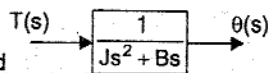

Fig 3.
In equation (6), $T(s)$ is input and $\theta(s)$ is the output. Hence equation (6) is rearranged and the block diagram for this equation is shown in fig 3.